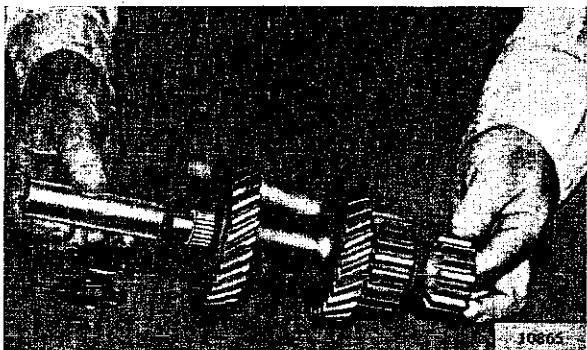

FIG. J-9—COUNTERSHAFT GEAR BEARING ARBOR
countershaft needle bearings in the countershaft gear hub, using special tool W-166 with loading sleeve, as shown in Fig. J-9 and J-10. Place the spacer inside the hub and insert the special tool in the spacer. Place a washer at each end of the spacer and load a set of bearing rollers at each end. Then add a washer, a set of bearing rollers, and finally another washer at each end to complete the assembly. Place the countershaft gear assembly in the case but do not install the countershaft until the mainshaft and main drive gear are installed.
- b. To assemble the countershaft gear, it is necessary to use Tool W-193 or equivalent Fig. J-9. Place the special tool through the gear set and insert the long spacer positioning it at the center of the gear set. Place a set of twenty rollers at each end of the spacer followed by a spacing washer at each end. A small amount of grease will hold the spacing washer in position. Place the assembled countershaft gear set in the bottom of the case with the large gear toward the front.